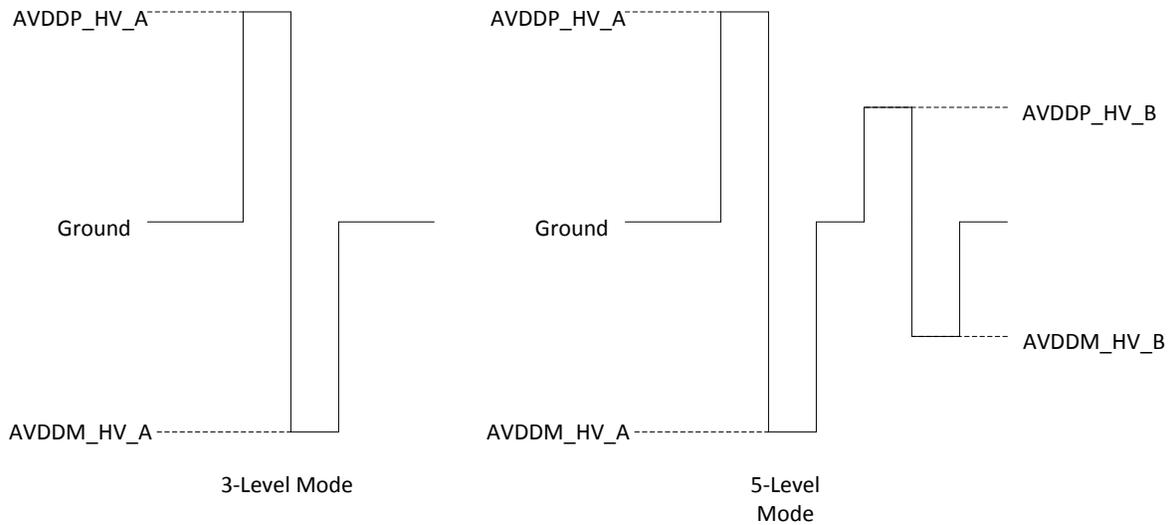

Figure 33. Typical 3-level and 5-level output waveform
1. 3-Level Mode: Each pulser can generates 3-level of high voltage pulses i.e. output can make transition to AVDDP_HV_A/B, AVDDM_HV_A/B supplies, or to ground; see Figure 33.
2. 5-Level Mode: Two pulsers (one from Group A and the other from Group B) combine to generates a 5-levels output waveform. To achieve this, the same numbered channel outputs of group A and group B have to be shorted. In the 5-level mode, the output can make transition to AVDDP_HV_A, AVDDP_HV_B, AVDDM_HV_A, AVDDM_HV_B supplies, and to ground; see Figure 33.
Typical output waveforms for 3-level and 5-level modes is shown in Figure 33